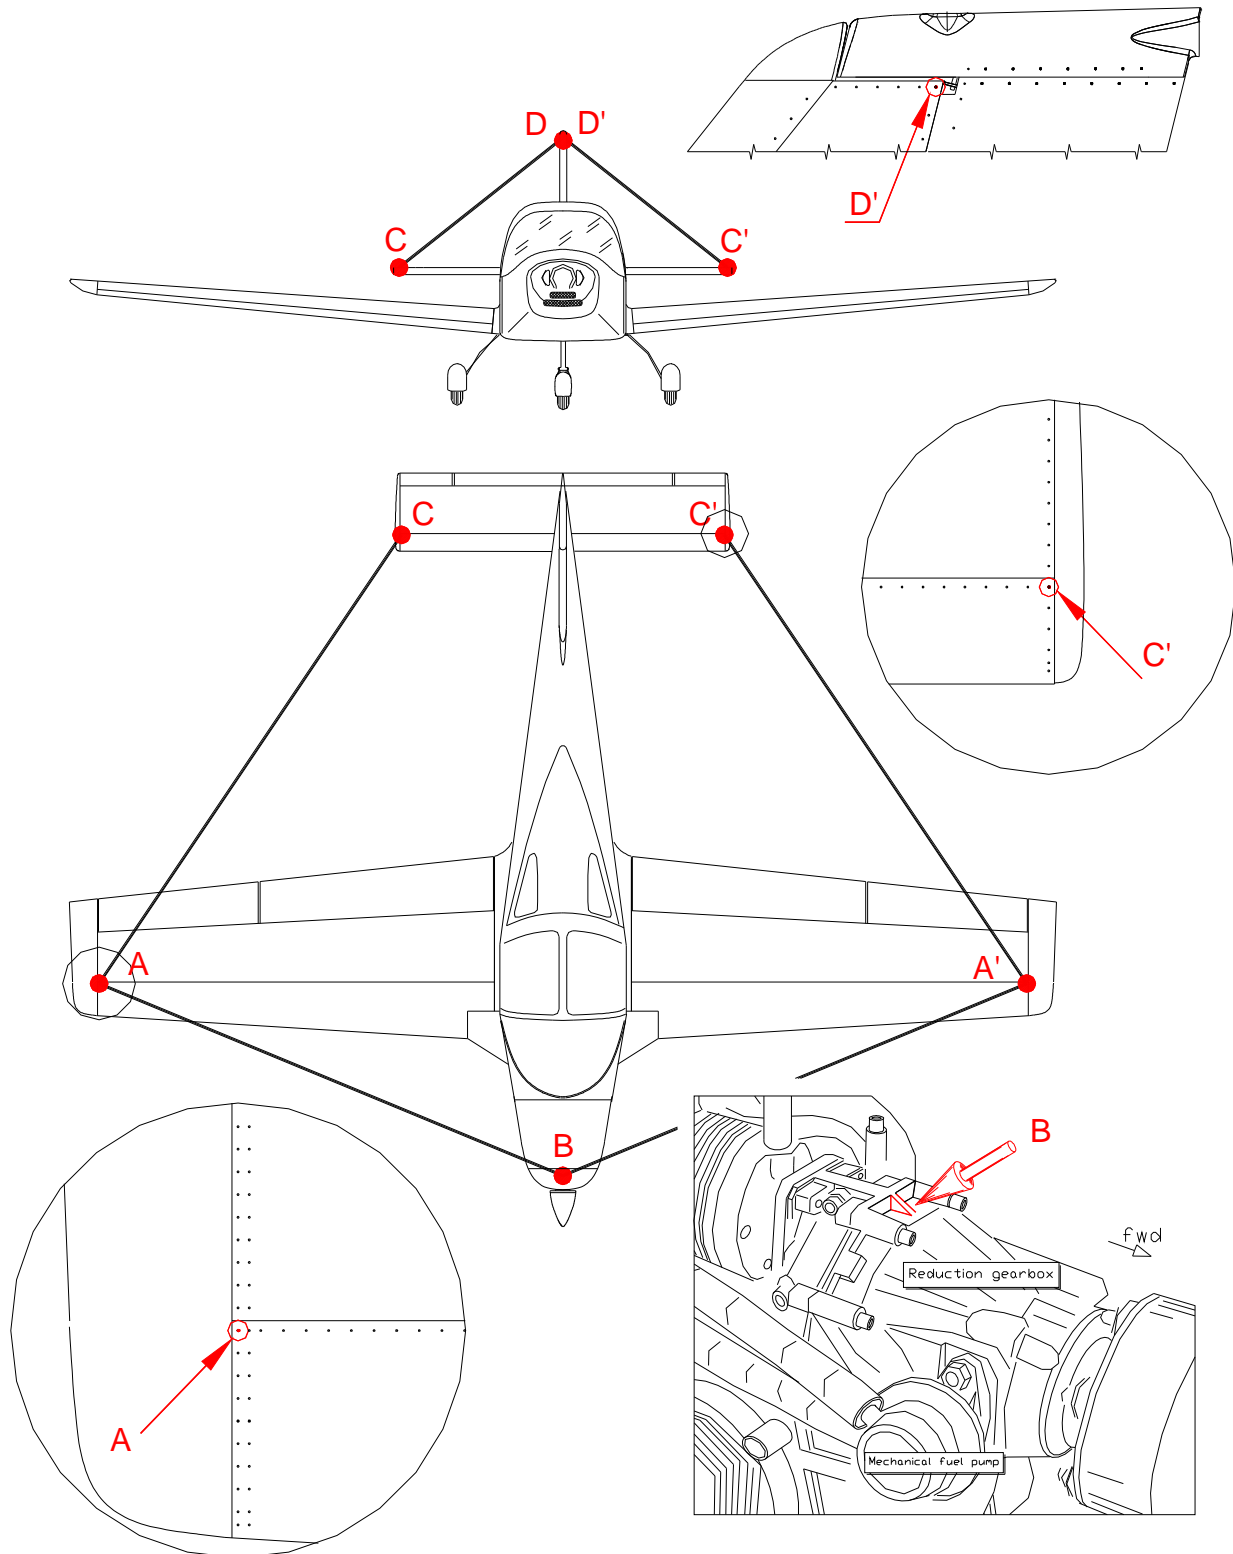

FIGURE B-4 ALIGNMENTS
- B – The reference pointed in Figure B-4 on the top of the propeller reduction gearbox. To get the access it is necessary to remove the engine's upper cowling.